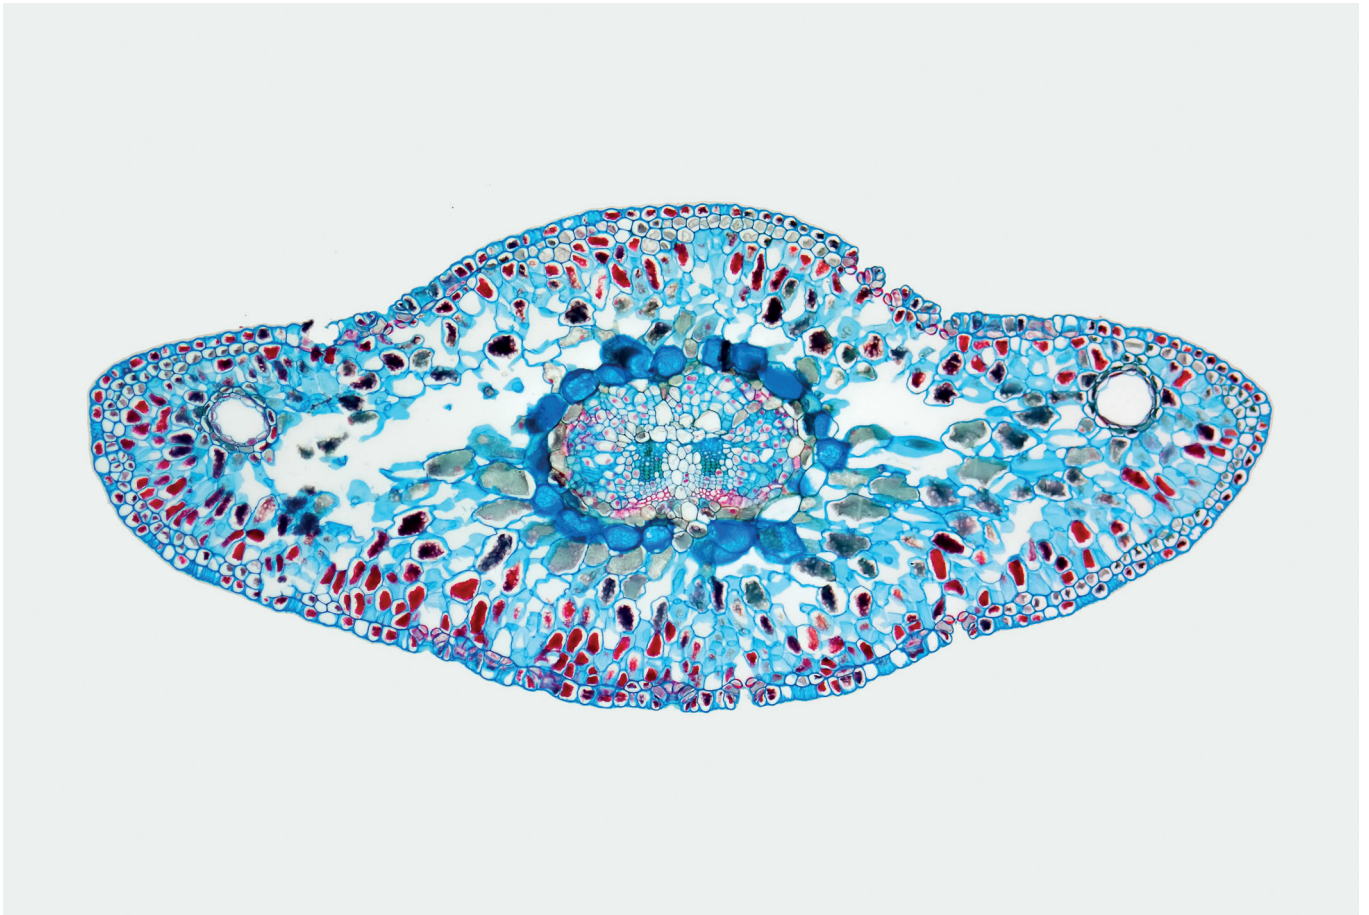
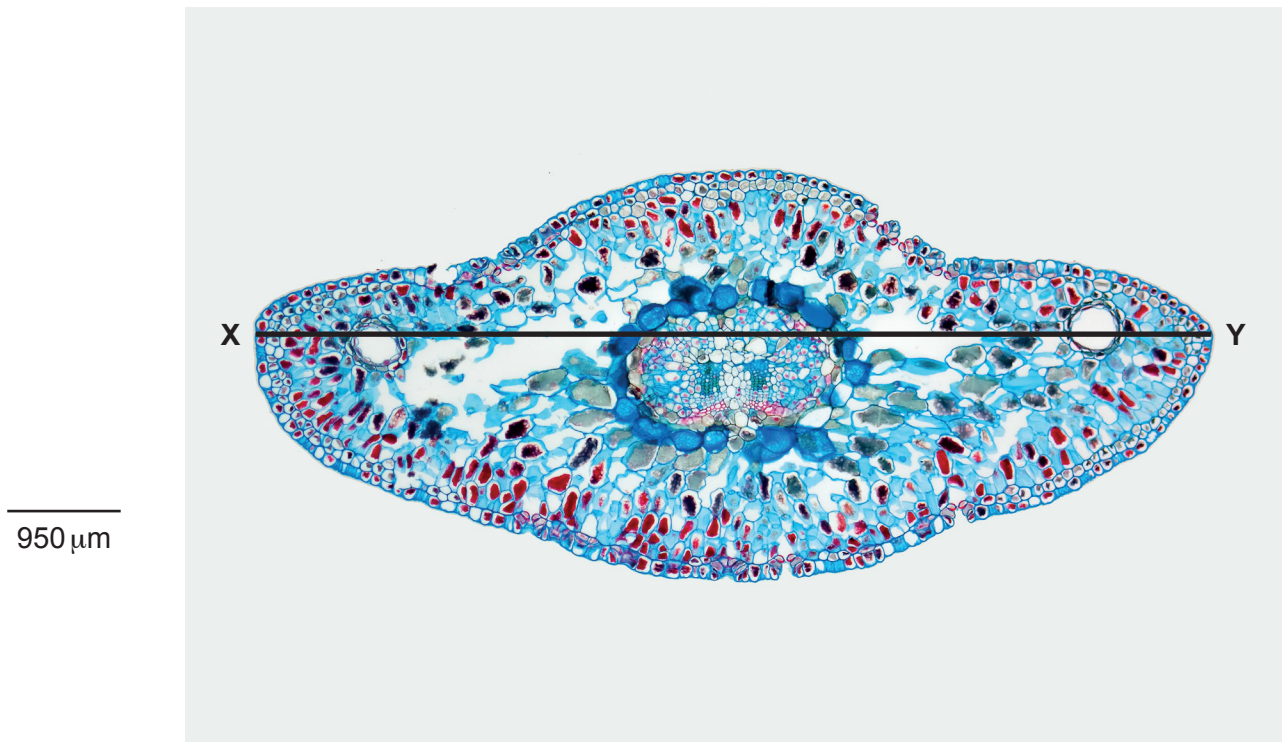

Fig. 2.1
Fig. 2.2
- (b) Fig. 2.1 is a photomicrograph of a stained transverse section through a different type of leaf from J1.
Identify **three** observable **differences** between the leaf section on **J1** and the leaf section in Fig. 2.1.
- (c) Fig. 2.2 is the same photomicrograph as that in Fig. 2.1, with the line **X–Y** drawn across its width.
In Fig. 2.2 the line **X–Y** is drawn across the width of the leaf. Use the line **X–Y** and the scale bar to calculate the actual width of the leaf.